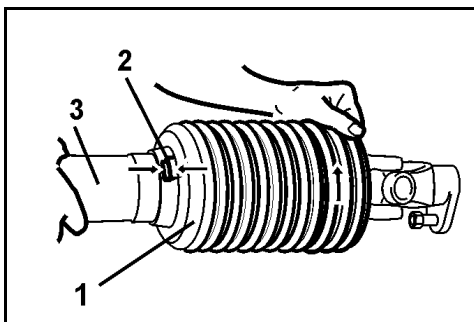

Fig. 53
9. Fit the guard half (Fig. 53/1).
10. Turn the PTO shaft guard (Fig. 53/2) to the block position.
11. Screw in the locking screw (Fig. 53/3).